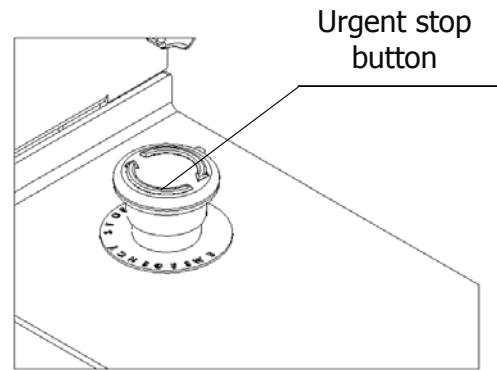

Figure.18
- e) Ensure that urgent stop button of the machine is open. (Figure.18)
- c) Ensure that urgent stop button of the machine is open. (Figure.18)